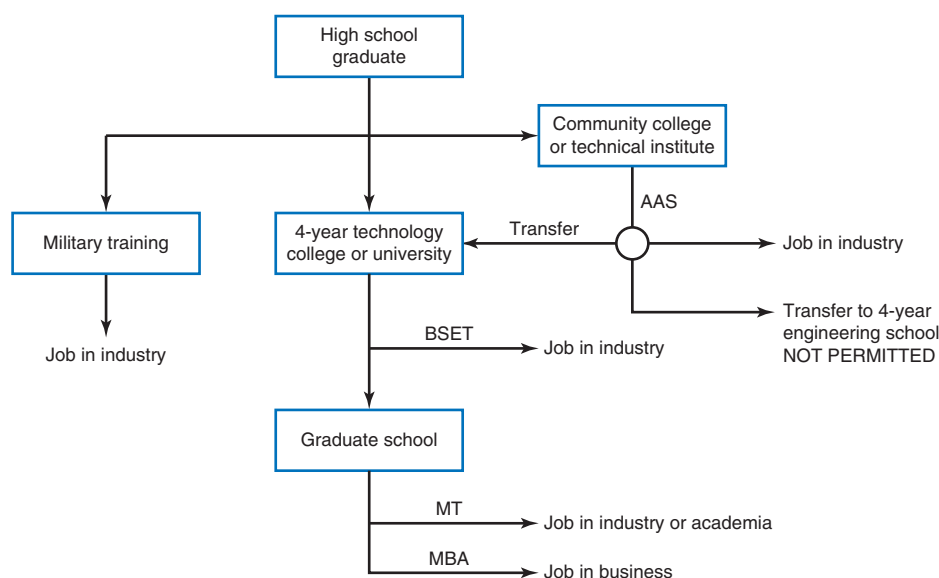

Figure 1-3 Educational paths for technicians.
Technicians have some kind of postsecondary education in electronics, from a vocational or technical school, a community college, or a technical institute. The typical technology education paths are illustrated in Fig. 1-3. Many technicians are also educated in military training programs. Most technicians have an average of two years of formal post-high school education and an associate degree. Common degrees are associate in arts (AA), associate in science (AS), or associate of science in engineering technology (ASET) or associate of science in electronic engineering technology (ASEET), and associate in applied science (AAS). The AAS degree tends to cover more occupational and job-related subjects; the AA and AS degrees are more general and are designed to provide a foundation for transfer to a bachelor degree program. The math level is typically algebra and trigonometry, rather than calculus although some AAS programs may require an introduction to calculus. As for science, AAS programs do not commonly require engineering-level physics or chemistry although some introductory courses may be included.